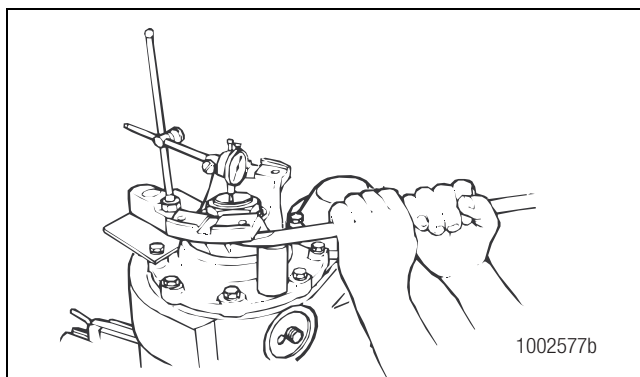

Figure 5.86
- C. Use a pry bar and a support to push the yoke or the flange away from the carrier. Read the dial indicator. The reading must be 0.002-0.008-inch (0.050-0.200 mm). Figure 5.86.